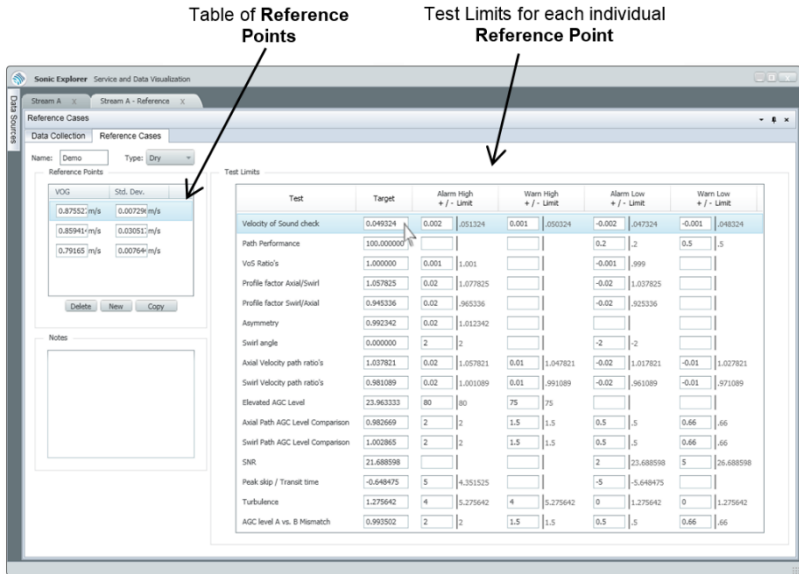

Figure 18-4 Change Limits in Reference Case
- ✓ SonicExplorer will display a window as seen in Figure 18-4. On the left hand side there is a table with all reference points listed.
- Type in the desired test limits. Only the values in the boxes may be altered. (Figure 18-4)